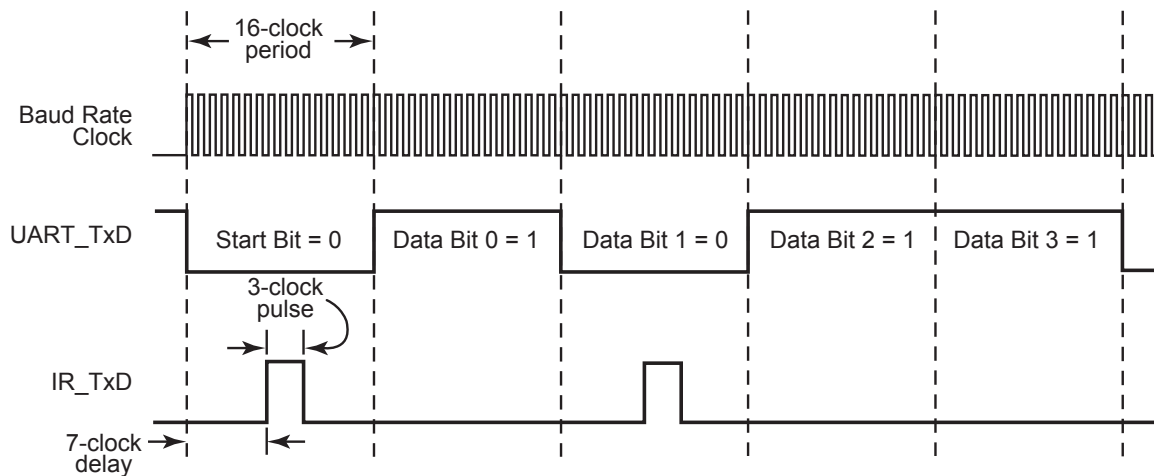

Figure 27. Infrared Data Transmission
Each UART bit is 16-clocks wide. If the data to be transmitted is a logical 1 (High), the IR_TxD signal remains Low (0) for the full 16-clock period. If the data to be transmitted is a logical 0, a 3-clock High (1) pulse is output following a 7-clock Low (0) period. Following the 3-clock High pulse, a 6-clock Low pulse completes the full 16-clock data period. Data transmission is displayed in Figure 27. During data transmission, the IR receive function should be disabled by clearing the IR_RxEN bit in the IR_CTL reg to 0. The SIR data format uses half-duplex communication; the UART does not transmit data while the receiver decoder is enabled.